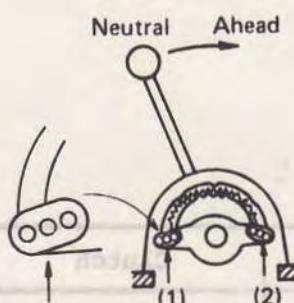

Fig. 3A Where lever is to be pulled
- a. Depending on the control head lever operating manner, whether right hand operation or left hand operation or whether pulling or pushing operation for ahead movement, the cable installing side (1) or (2) differs. See Fig. 3A and 3B, below.